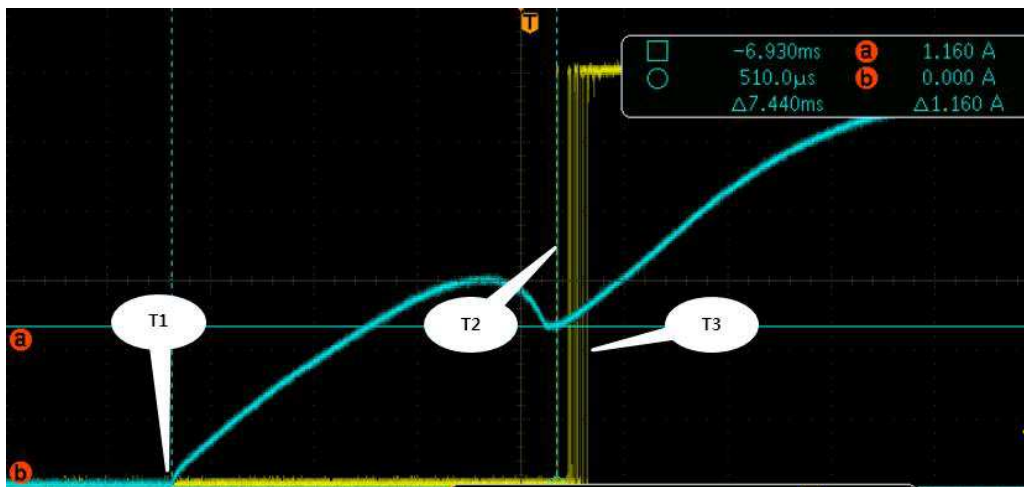

Figure.1
- T1~T2 at figure.1
- T1~T3 at figure.1
- T2~T3 at figure.1